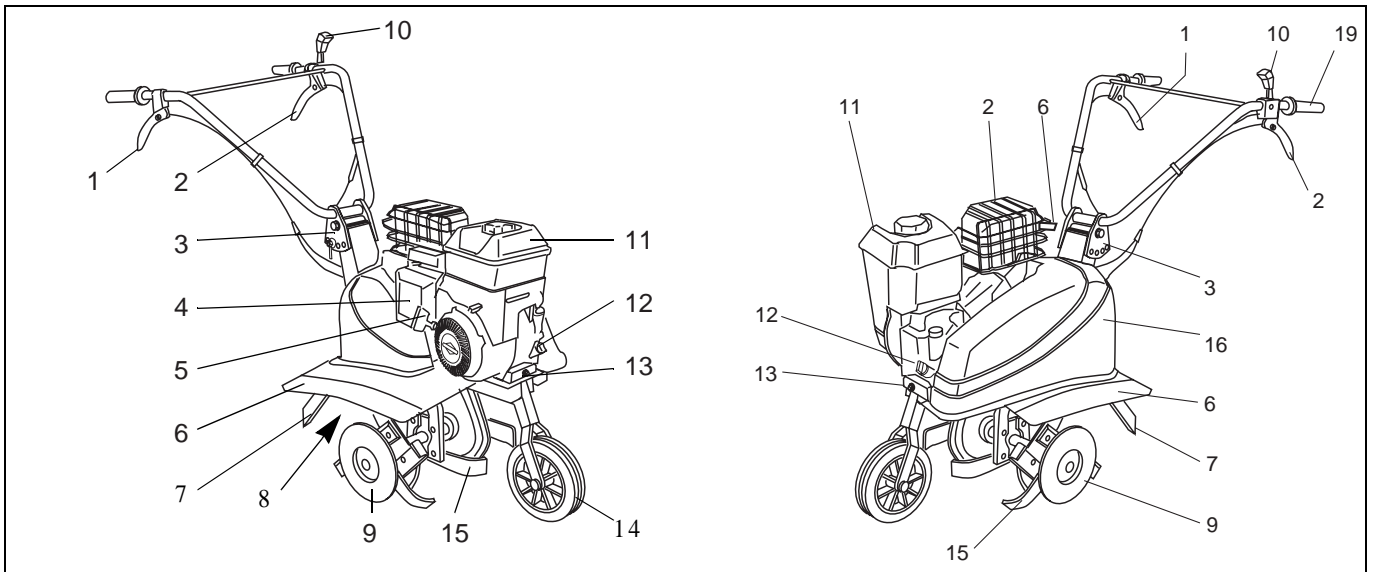

Fig. 2
### 8.4 CHANGING/CHECKING THE OIL, SEE FIG. 2
1. Remove the cover (16) in fig. 2.
2. Lift the tensioning pulley (2) and work off the belt.
3. Work off the belt from the two pulleys. The clamp (A) over the small pulley should not be removed.